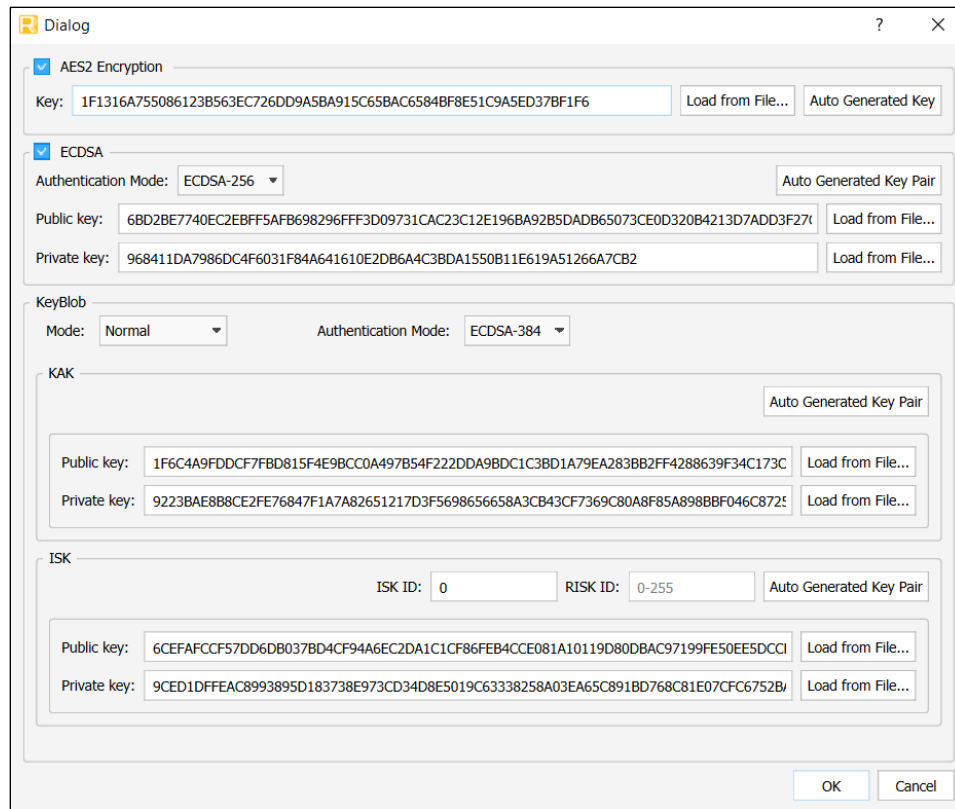

Figure 4.13. Key Dialog Box
- c. In the Keys dialog box, make the following selections (Figure 4.13).